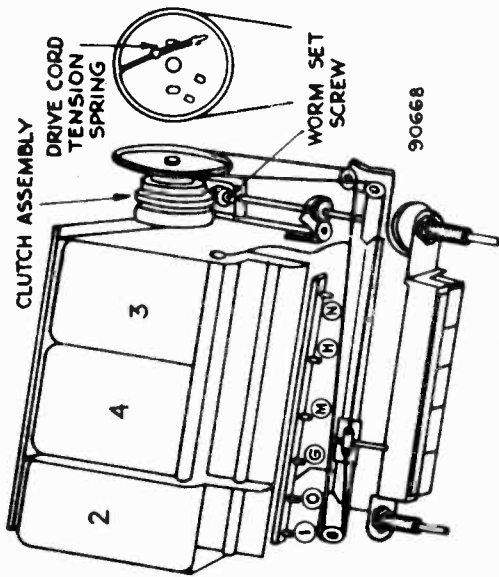

FIG. 5--DIAL CORD LAYOUT
- (b) Turn each of the three core screws (Illus. G, H, & I, Fig. 5) in a counter-clockwise direction 8 TURNS. (This is done in order to separate the cores from the coil windings far enough so that the cores will have no effect on the frequency of the circuits.)
- (f) Change the frequency of the signal generator to 1560 K.C. and turn the oscillator core screw (Illus. G, Fig. 5) clockwise until maximum output is obtained.
- (h) Adjust the core screws (Illus. H & I, Fig. 5) for maximum signal output.
- (m) Adjust antenna and R.F. cores (Illus. H & I, Fig. 5) for maximum output.
- (c) Tune the receiver so that the dial pointer is at the extreme high frequency end of the 31 meter band and adjust iron core screws (Illus. M, N & O, Fig. 5) so that each core end is flush with the coil forms, which extend beyond the shield.